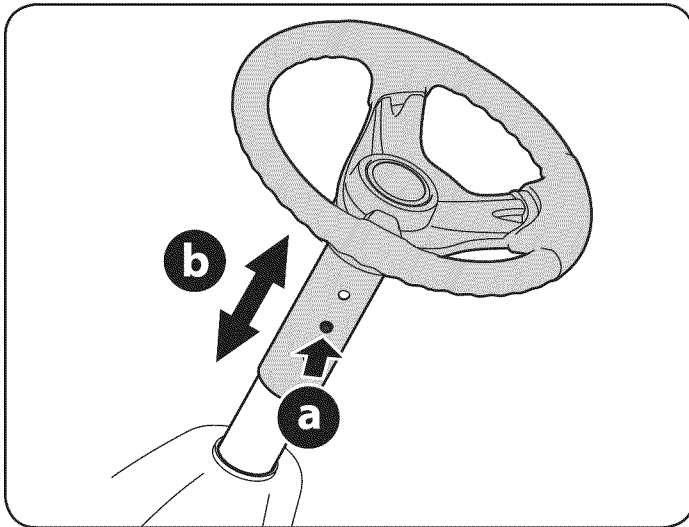

Figure 7
2. Push the button (a) on the steering column and raise or lower the steering wheel (b) to the desired position. See Figure 7.